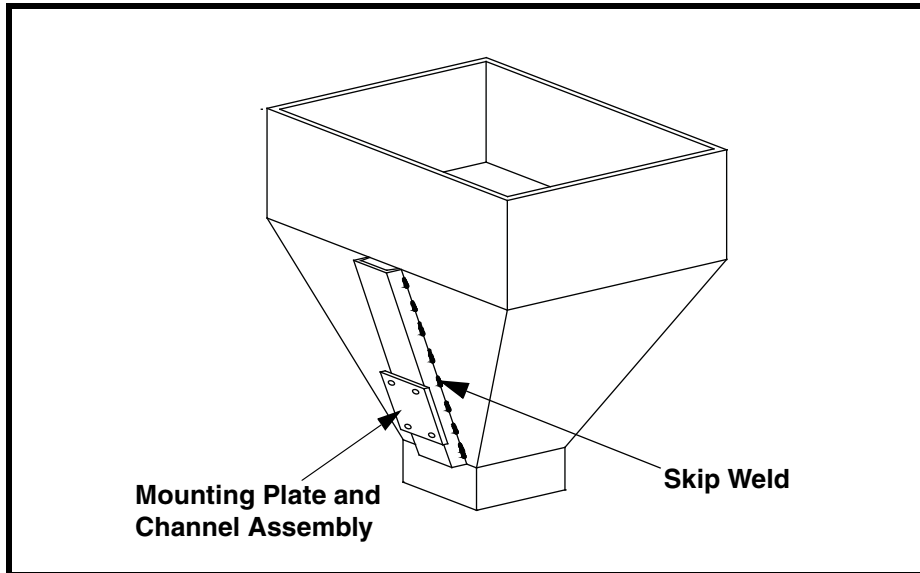

Figure 2. Mounting Plate and Channel Assembly
3. If using mounting plate and channel assembly to mount vibrator onto structure (see Figure 2), do the following: